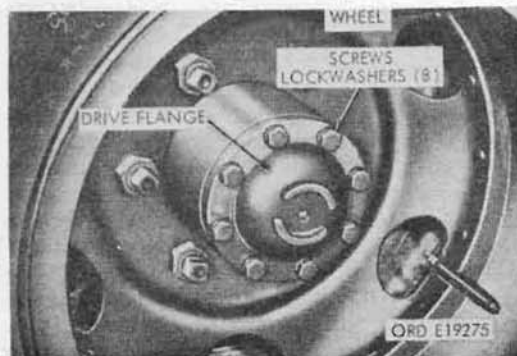

Figure 203. Rear axle shaft - installed
a. Removal. Place a dolly under the axle containing the axle shaft to be removed and raise it sufficiently to take the weight off the wheel. Remove eight screws and lockwashers attaching drive flange to hub (fig. 203). Withdraw shaft from hub by pulling on flange. Remove and discard gasket.